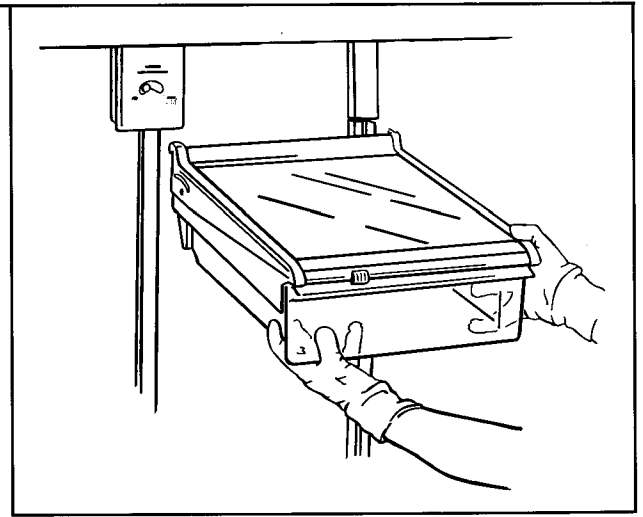

Figure 52
- b. Move meat storage shelf to a new position. See Figure 52.